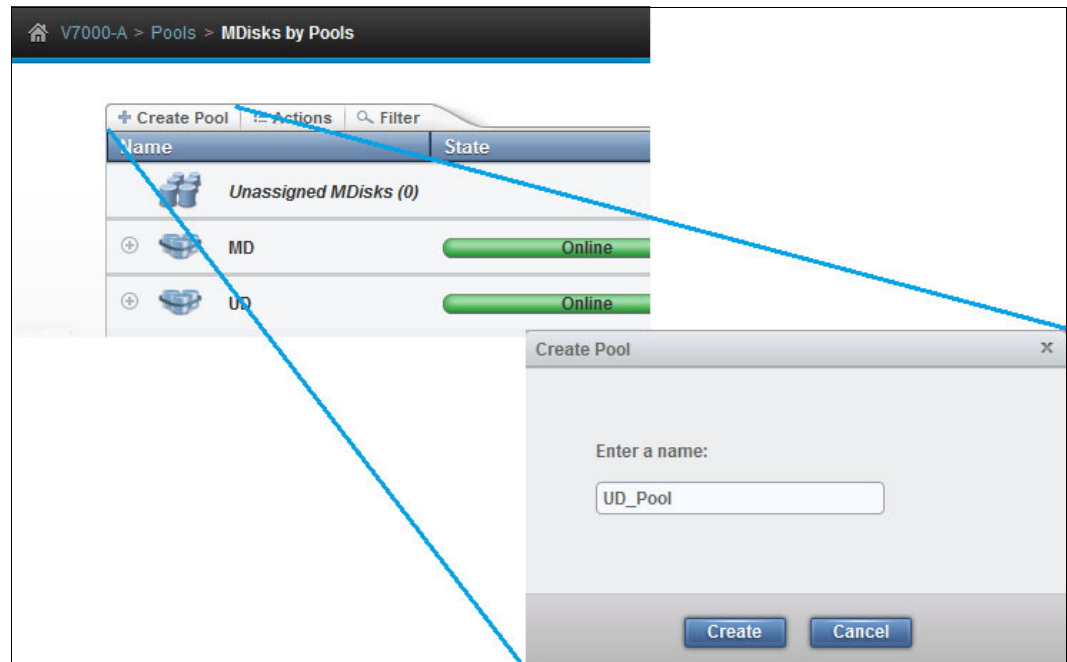

Figure 9-3 Creating pools
3. Insert a name for the pool, such as MD_pool1 or UD_pool1 (Figure 9-3). At this time you might want to change the icon of the pool using the **Choose Icon** option. Click **Next** to continue with the pool creation process.